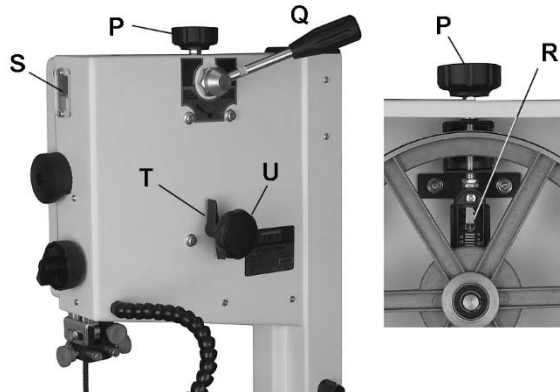

Figure 12
5. Release tension on blade by moving tension handle (Q, Figure 12) to the right.
7. Remove blade through slot (O) in table.
8. Guide the new blade through table slot (O) leading with the smooth edge. Place it around the upper and lower wheels and into the upper and lower blade guides (M,N).
11. Engage tension on the blade by moving quick tension handle (Q, Figure 12) to the left.
Refer to Figure 12:
1. Open upper and lower doors. Rotate upper wheel forward by hand, and observe position of blade on wheel through the window (S, Figure 12). Blade should be in the center of the wheel.